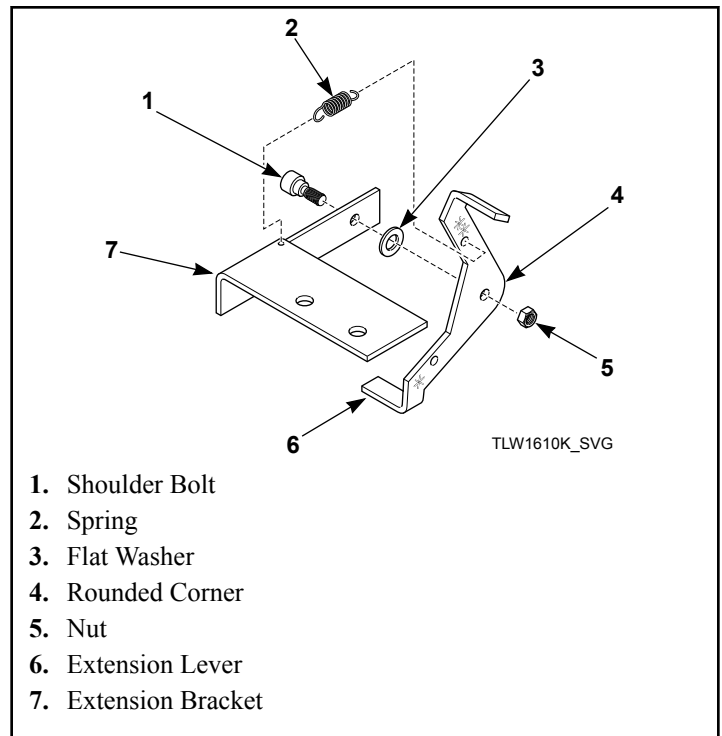

Figure 14
- Install extension lever with rounded corner facing away from extension bracket using shoulder bolt, flat washer and nut. Refer to *Figure 14*.
- Install spring to extension bracket with hook facing down. Install other end of spring to extension lever with hook facing left while standing in front of unit. Refer to *Figure 14*.